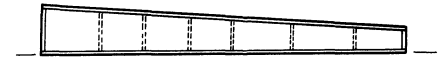

FIGURE 11
**Step 5.** Glue left side to top edges of tail and nose blocks as in Fig. 11